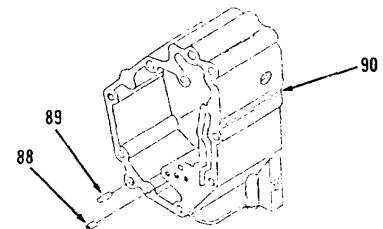
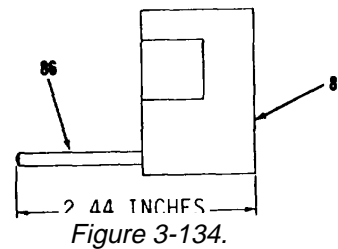

Figure 3-123.
Figure 3-134.
1. Install four dowels (89, Figure 3-123) to center governor housing, if removed. Install so 0.236 inch extends beyond machined surface of housing (90).
2. Install two dowels (88), if removed. Install so 0.020 inch extends beyond machined surface of housing (90).
3. Install dowel (86) in block (87, Figure 3-134).